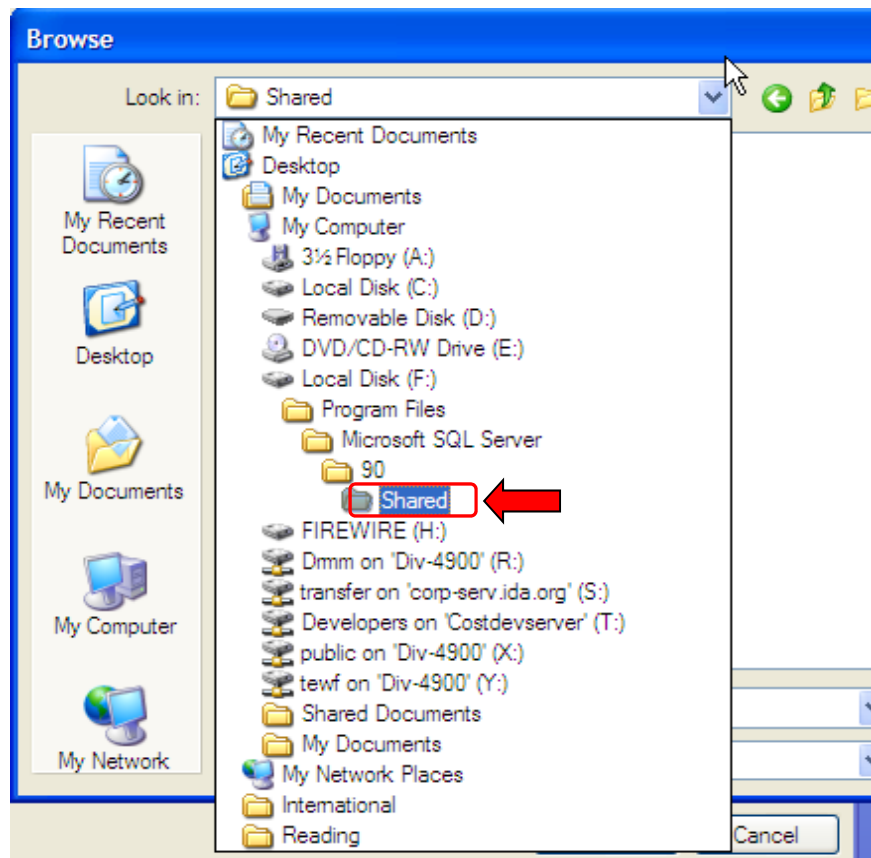

Figure III-14. Microsoft SQL Server\90\Shared Folder
- f. Click the **Add Program** button on the Exceptions tab of the Windows Firewall window again and navigate to the **Microsoft SQL Server\90\Shared** folder as shown in Figure III-14 (similar to the previous steps used to add **sqlservr.exe**).